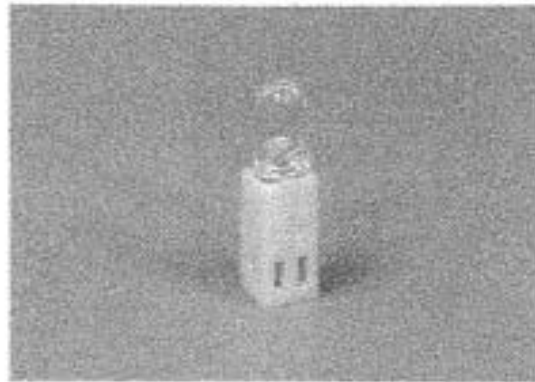

Fig.6
- c. After opening the lamp housing, pull out the LED lamp with its socket, replace with a new one, as shown in Fig.6